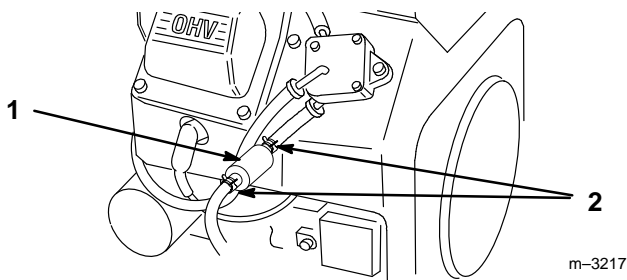

Figure 24
4. Squeeze the ends of the hose clamps together and slide them away from the filter (Fig. 24).